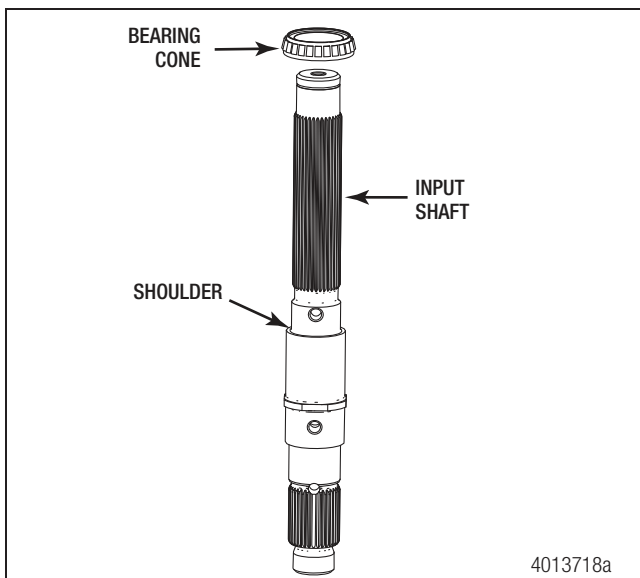

Figure 6.26
5. Place the bearing cone onto the input shaft with the appropriate end facing UP. Use driver #1 and a press to push the bearing cone DOWN until it is fully seated against the shoulder. Refer to "Tools" on page 60 for a tool drawing. Only press on the inner race of the bearing cone. Ensure the bearing cone is correctly seated. Figure 6.26.